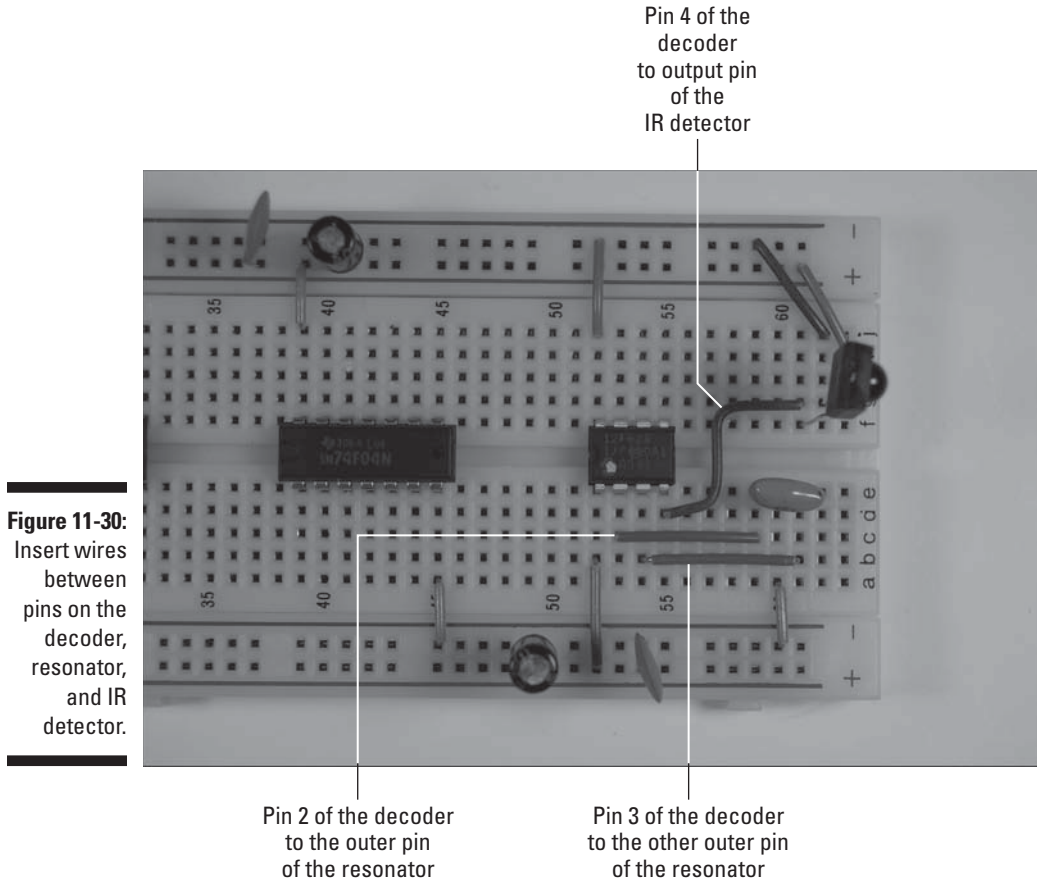

Figure 11-30: Insert wires between pins on the decoder, resonator, and IR detector.
7. Insert wires to connect the decoder IC, resonator, and IR detector, as shown in Figure 11-30.